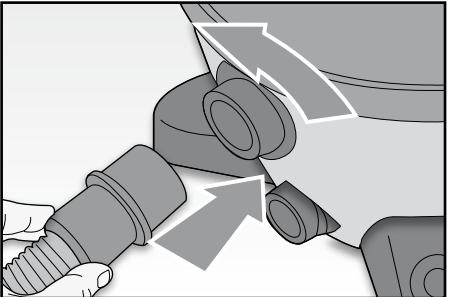

Fig. 3
- Insert the end of the hose (M) into the coupling (B) on the appliance body and turn it anticlockwise to lock it into place (FIG. 3). To remove the hose, turn the end clockwise and pull it out.